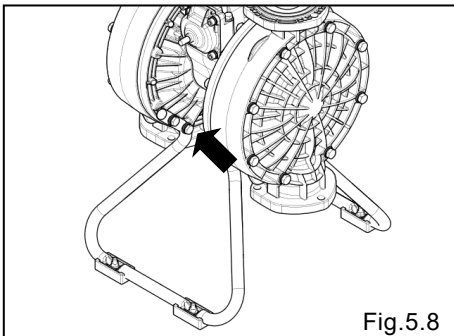

Fig.5.8
- For BPW & BVW, remove the 8 retainer bolts (4bolts for NDP-40) to take out the stand body [Fig.5.8].